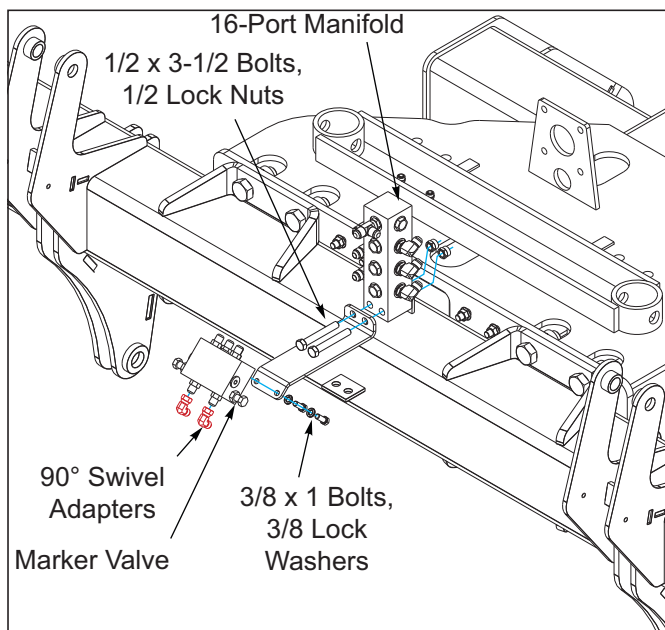

Figure 3-13: Marker Valve Installation
11. Remove the two 1/2 x 3-1/2 hex mounting bolts attaching the 16-port aluminum manifold on the top rear of the hitch **See Figure 3-13**. Using the same bolts, attach the valve mount bracket to the 16-port manifold.
12. Bolt the marker valve to the valve mount bracket with 3/8 x 1 bolts and lock washers **See Figure 3-13**. Install the valve with the A & B ports pointing downward, and the C & R ports pointing upward.